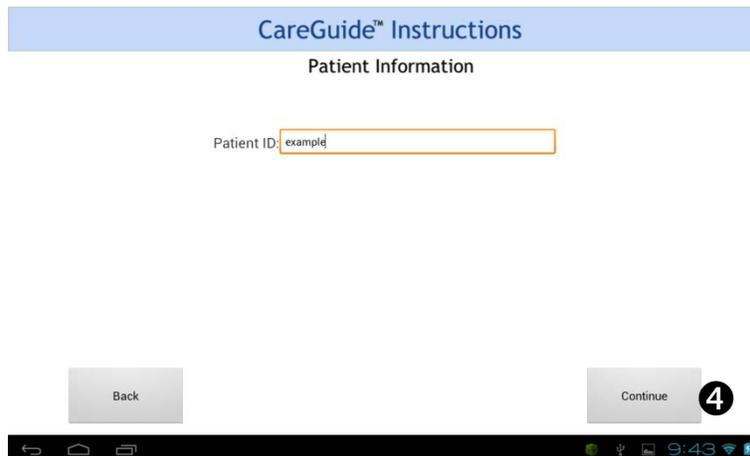

Figure 6. Patient ID Entered
- 4 Click 'Continue' (Figure 6 ④).